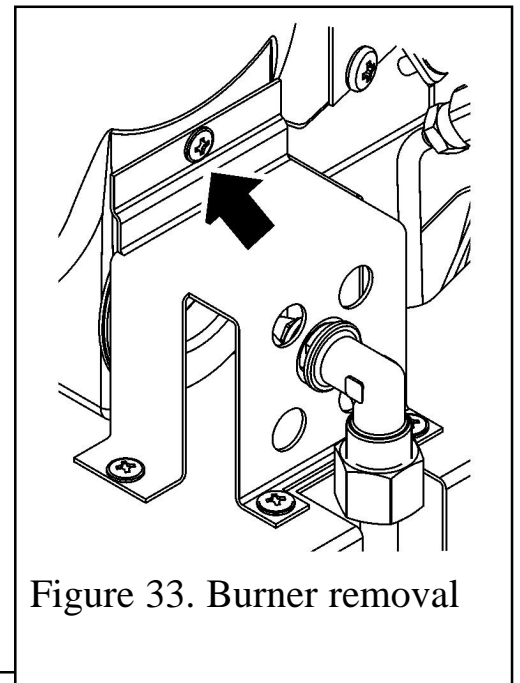

Figure 33. Burner removal
3. Remove the screw that secures the injector bracket to the burner (See figure 33).